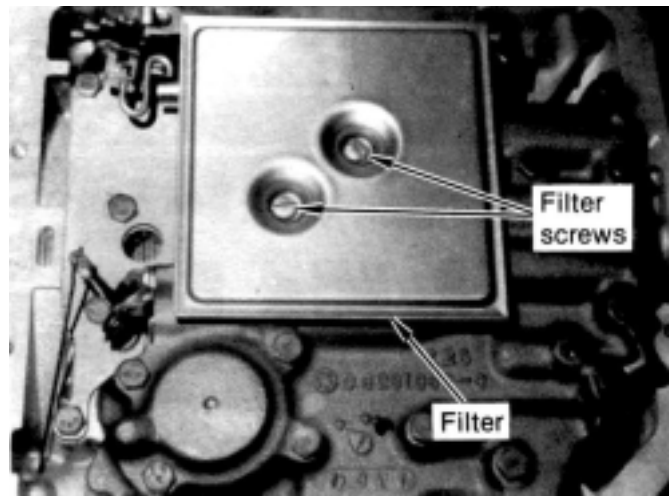

FIGURE 1
STEP 2. Use a screwdriver to remove two screws and remove the oil filter and filter gasket. Put them in the oil pan. (See Fig. 1)